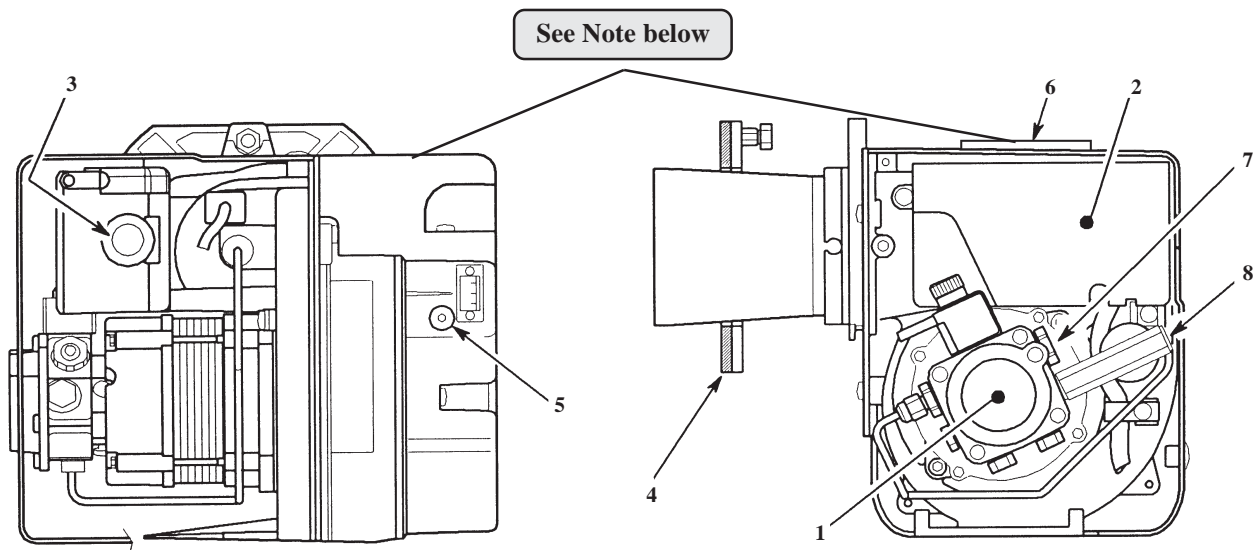

Fig. 21 - RDB burner components
- 7 With the burner alight, check the fuel pressure. Refer to the Technical Information, Section 3.3. Adjust the pressure if necessary - see Fig. 21.
Use the hexagonal key supplied to adjust the burner air damper (see Fig. 21) as required. Turning the screw anti-clockwise closes the damper and increases CO₂ level, turning the screw clockwise opens the damper and reduces CO₂ level. Re-check the smoke number if the damper has been moved. Under no circumstances must the smoke number be above 1.